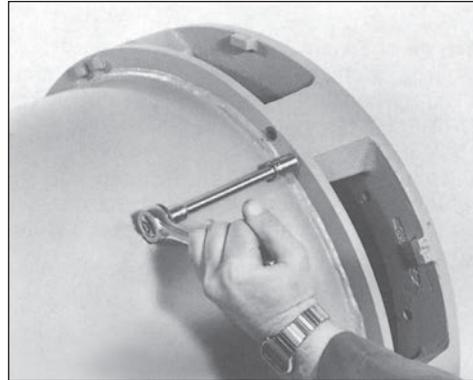

Figure 6-26
- a. For single bearing generators, remove the capscrews holding the SAE adapter to the generator and remove the adapter (figures 6-26 and 6-27).
- b. For two-bearing generators, remove the capscrews holding the drive end bracket to the generator and remove the bracket (figures 6-26 and 6-28).